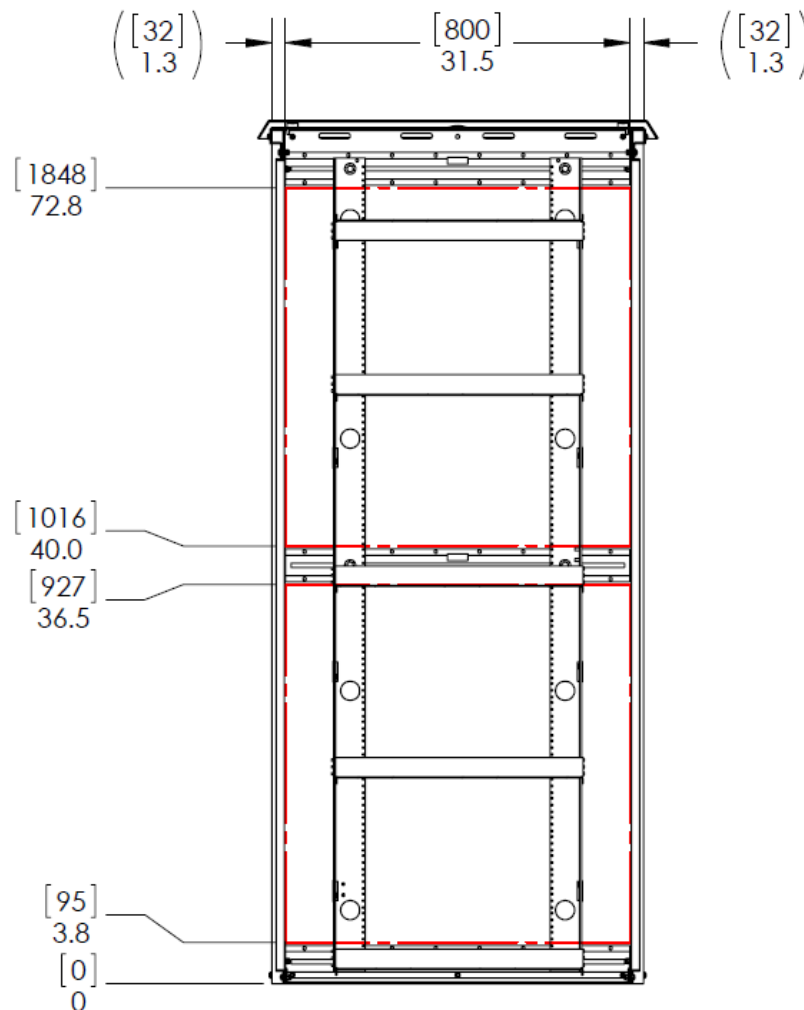
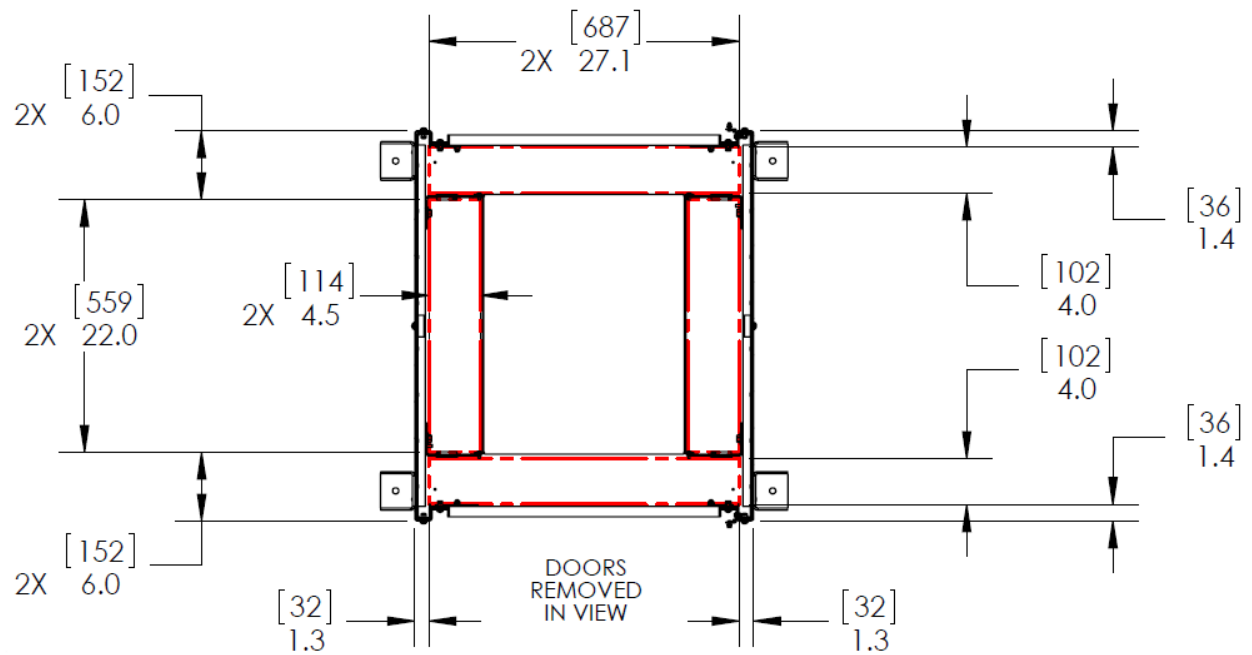

FIGURE 4: CONDUIT ACCESS ON SIDES (VIEW FROM INSIDE CABINET)
FIGURE 5: CONDUIT ACCESS (AND CLEARANCE) ON BOTTOM (VIEW FROM INSIDE CABINET)
- Areas depicted in red boxes in Figure 4 and Figure 5 are available for cable ingress into cabinet